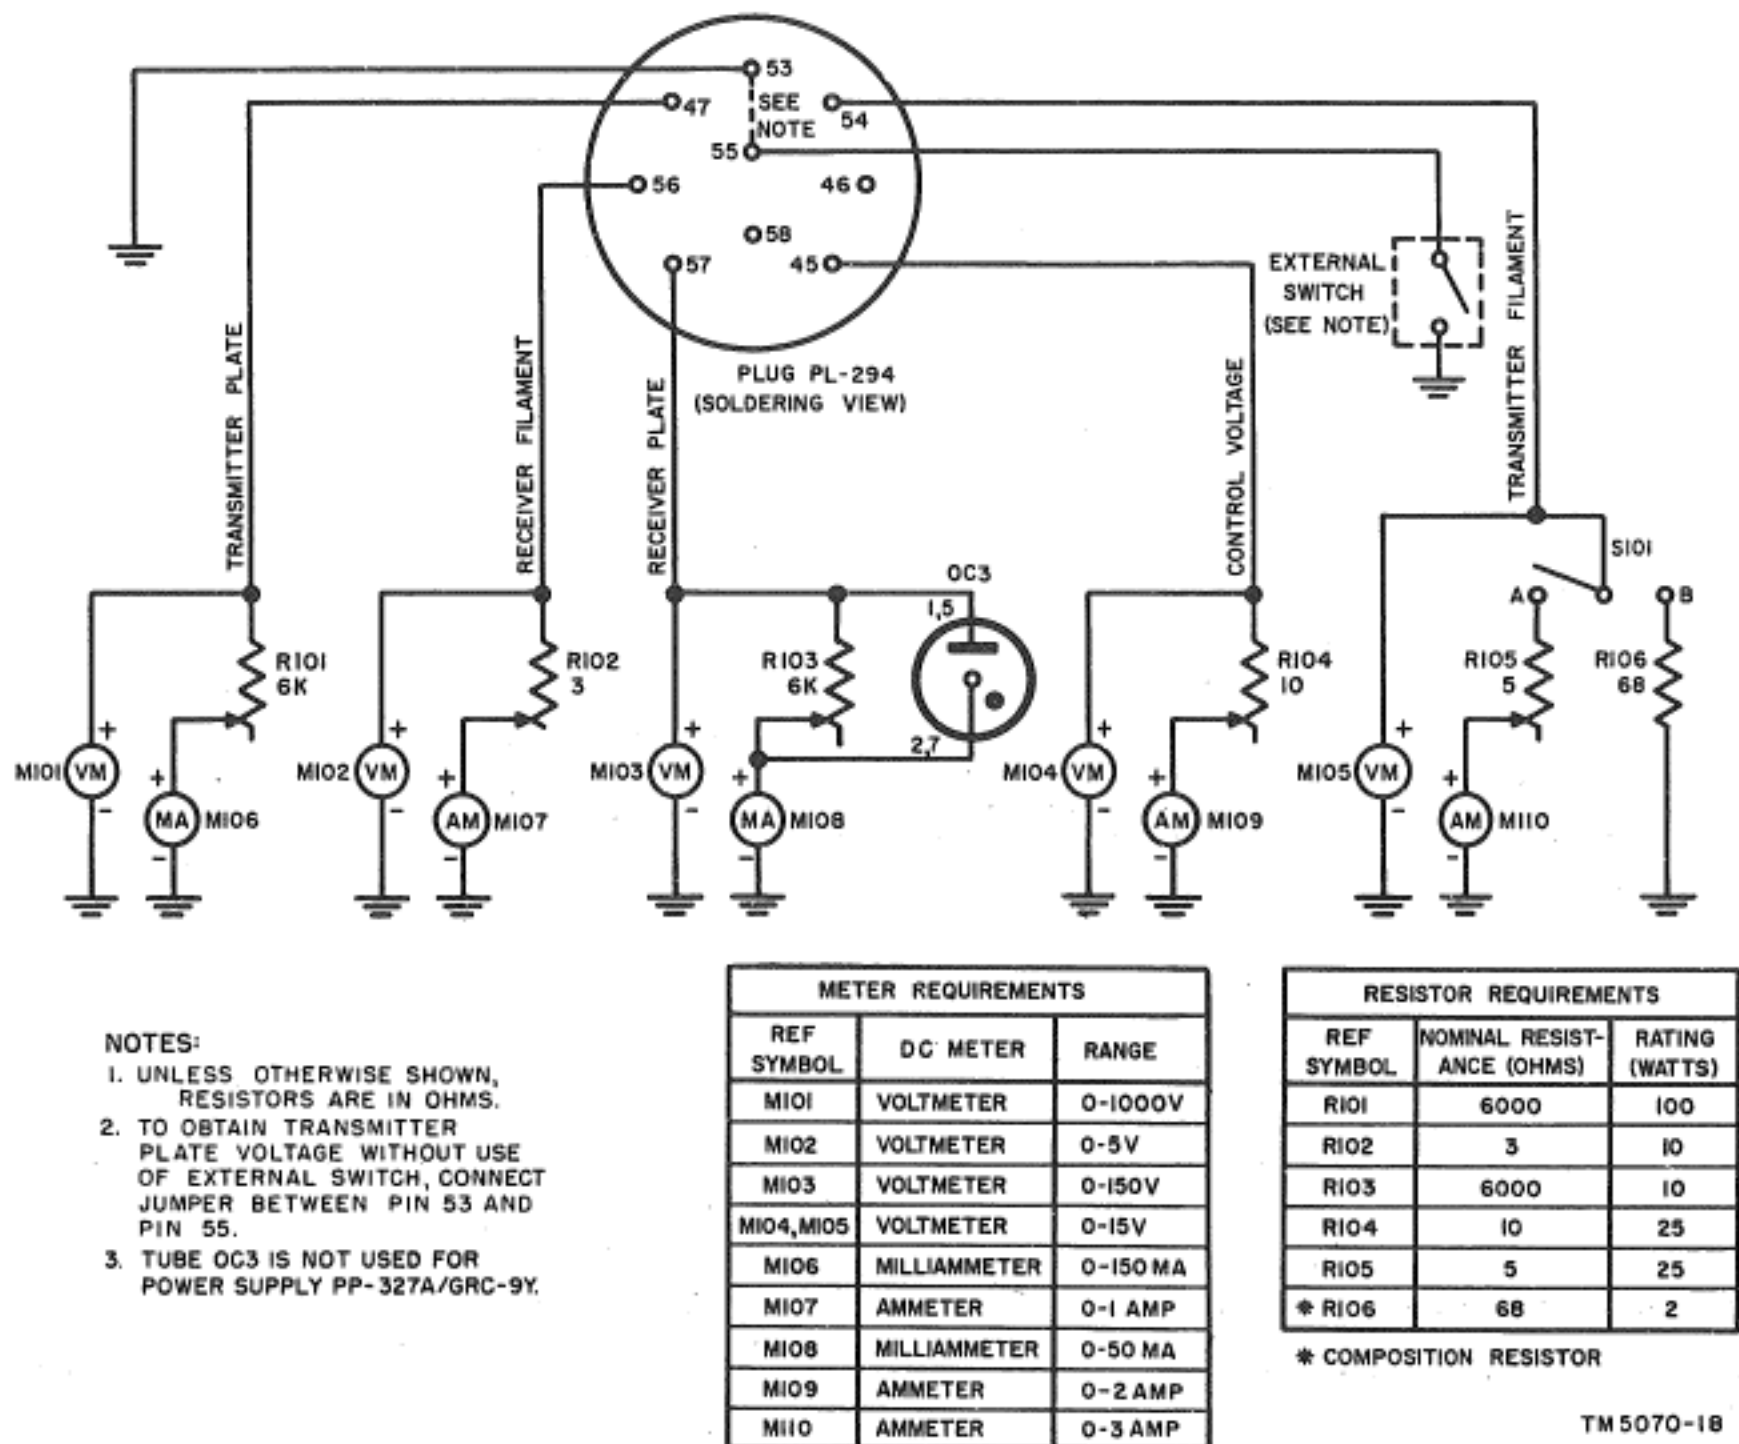

Figure 33. Test set-up diagram.
b. The components listed below are also required if testing is to be done with a dummy load instead of using Receiver-Transmitter RT-77(\*)/GRC-9 for the load. Slide-wire resistors must be used and adjusted to obtain the required current for each load voltage. The test set-up diagram is shown in figure 33 and the reference symbols refer to that figure.
### 68. Output Voltage Test with Resistance Loads (fig. 33)
Set up the equipment as shown in figure 33; use the equipment listed in paragraph 66. Individual meters may be used, but if they are not available, the voltages and currents at the points indicated may be measured with Multimeter TS-352/U.